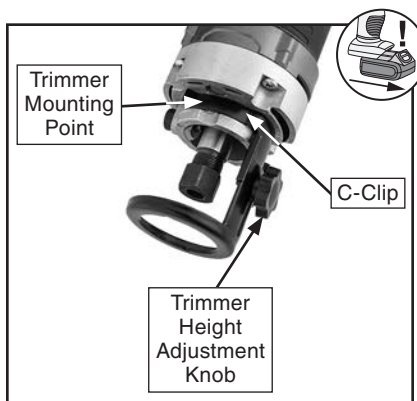

Figure 24. Trimmer guide installed.
- Attach trimmer C-clip to mounting points on router motor (**Figure 24**).
- Place router on flat surface and loosen trimmer height adjustment knob (see **Figure 24**).